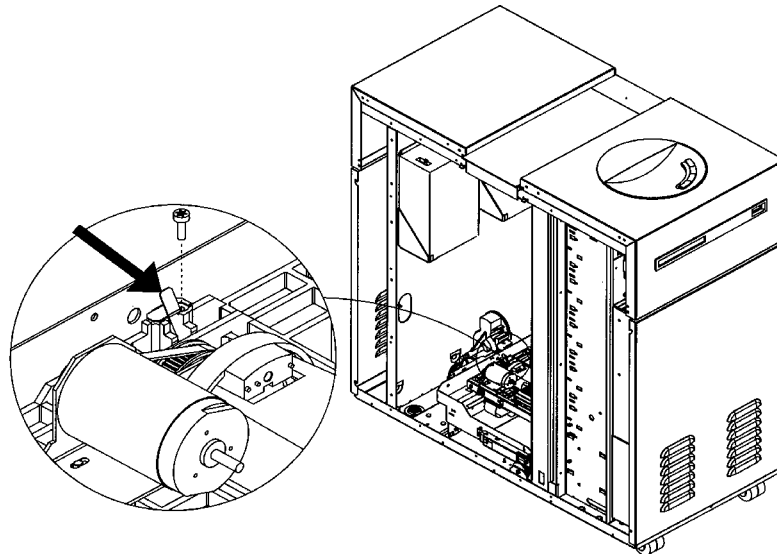

Figure 64: Releasing the Picker Capture Bracket
6. Remove the T-10 sheet metal screw that holds the capture spring down (see Figure 64).